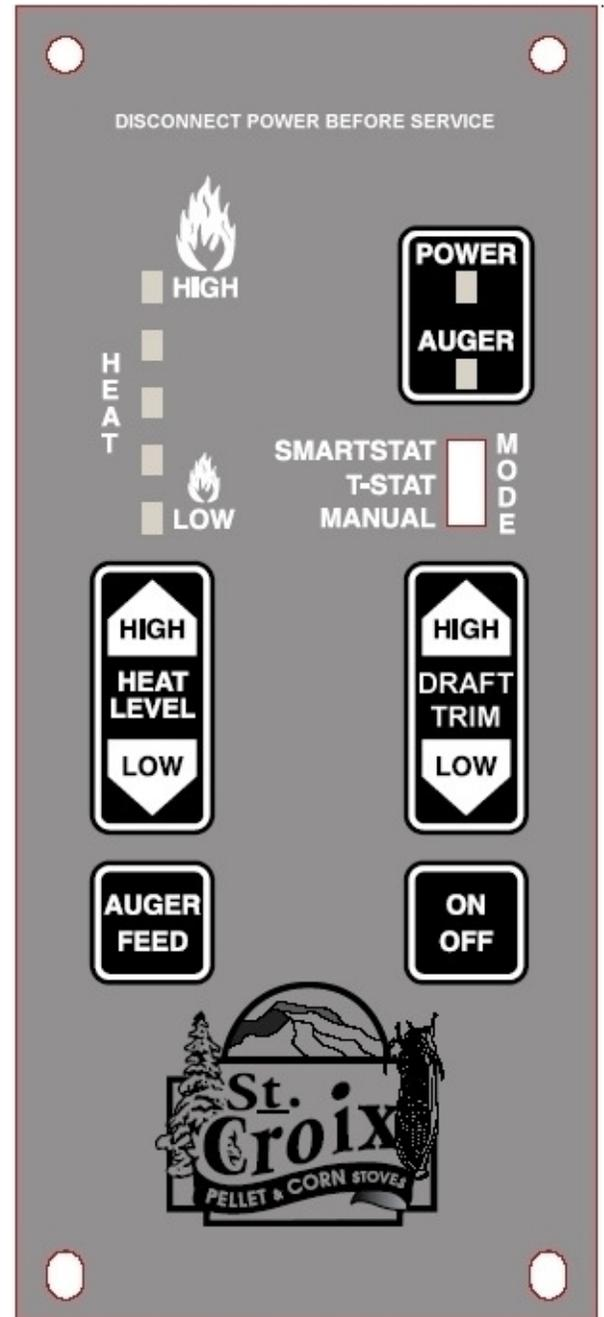

Figure 23
A closer look at the Control Board to the right in figure 23 will explain how the board works. There are essentially 4 buttons on the control board. Two of these buttons, the **Heat Level** and **Draft Trim** Buttons, have a High/Low side to advance these settings up or down. There is a slide switch that controls the Thermostat Mode and an LED Light bar that indicates which of the 5 Heat Settings the Stove is running on.
Shutting The Stove Off (Refer to Figure 23)
The #2 LED, #3 LED and #4 LED lights on the LED Light bar (*See figure 23*) will flash to give a diagnostic code to help in diagnosing problems that may occur.
1. The **Proof of Fire** switch. This switch will sense the temperature of the Exhaust rising during start up. If the Exhaust temperature does not reach 110 degrees F, or if, during use, the temperature drops below 110 degrees F, the Auger will quit feeding fuel and the drum will start rotating until the Stove completes the safety shutdown. The #3 LED will start blinking. (*See Figure 23 on Page 36*)